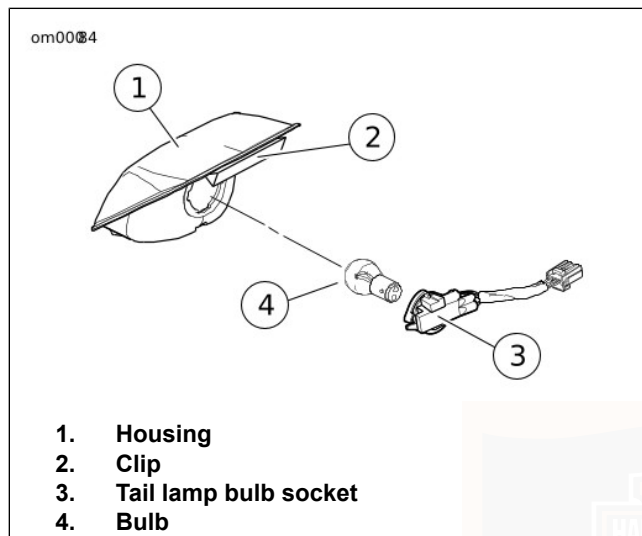

Figure 74. Tail Lamp Assembly: FXSTD Models
1. See Figure 74. Remove the tail lamp bulb socket by turning the socket counterclockwise and pulling outward away from the tail lamp housing.
3. See Figure 74. Install the tail lamp assembly, top first, with the indent in the clip touching the fender to lock in place. Then push the tail lamp assembly toward the front of the vehicle. Engage the rear cup into the opening in the fender lamp well and push down to lock in place. You will hear an audible click.